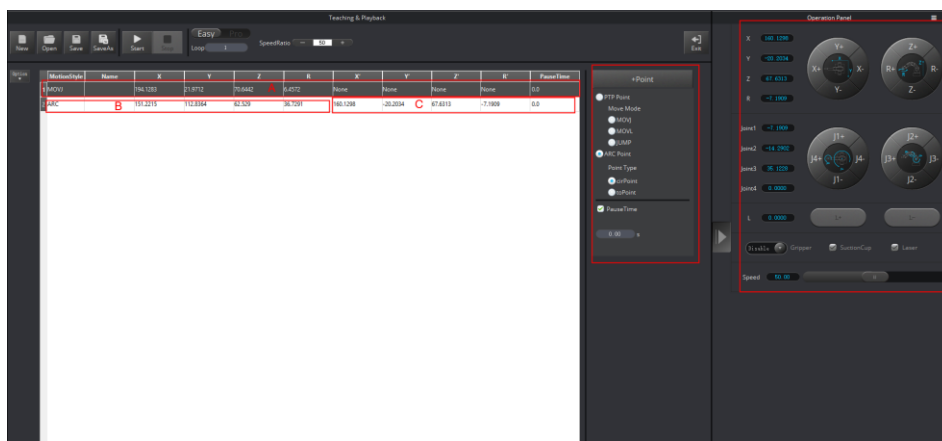

Figure 5.21 Save the second position B and the end position C
5. Click **+Point** to save the coordinates corresponding to the positions B and C, as shown in Figure 5.21.